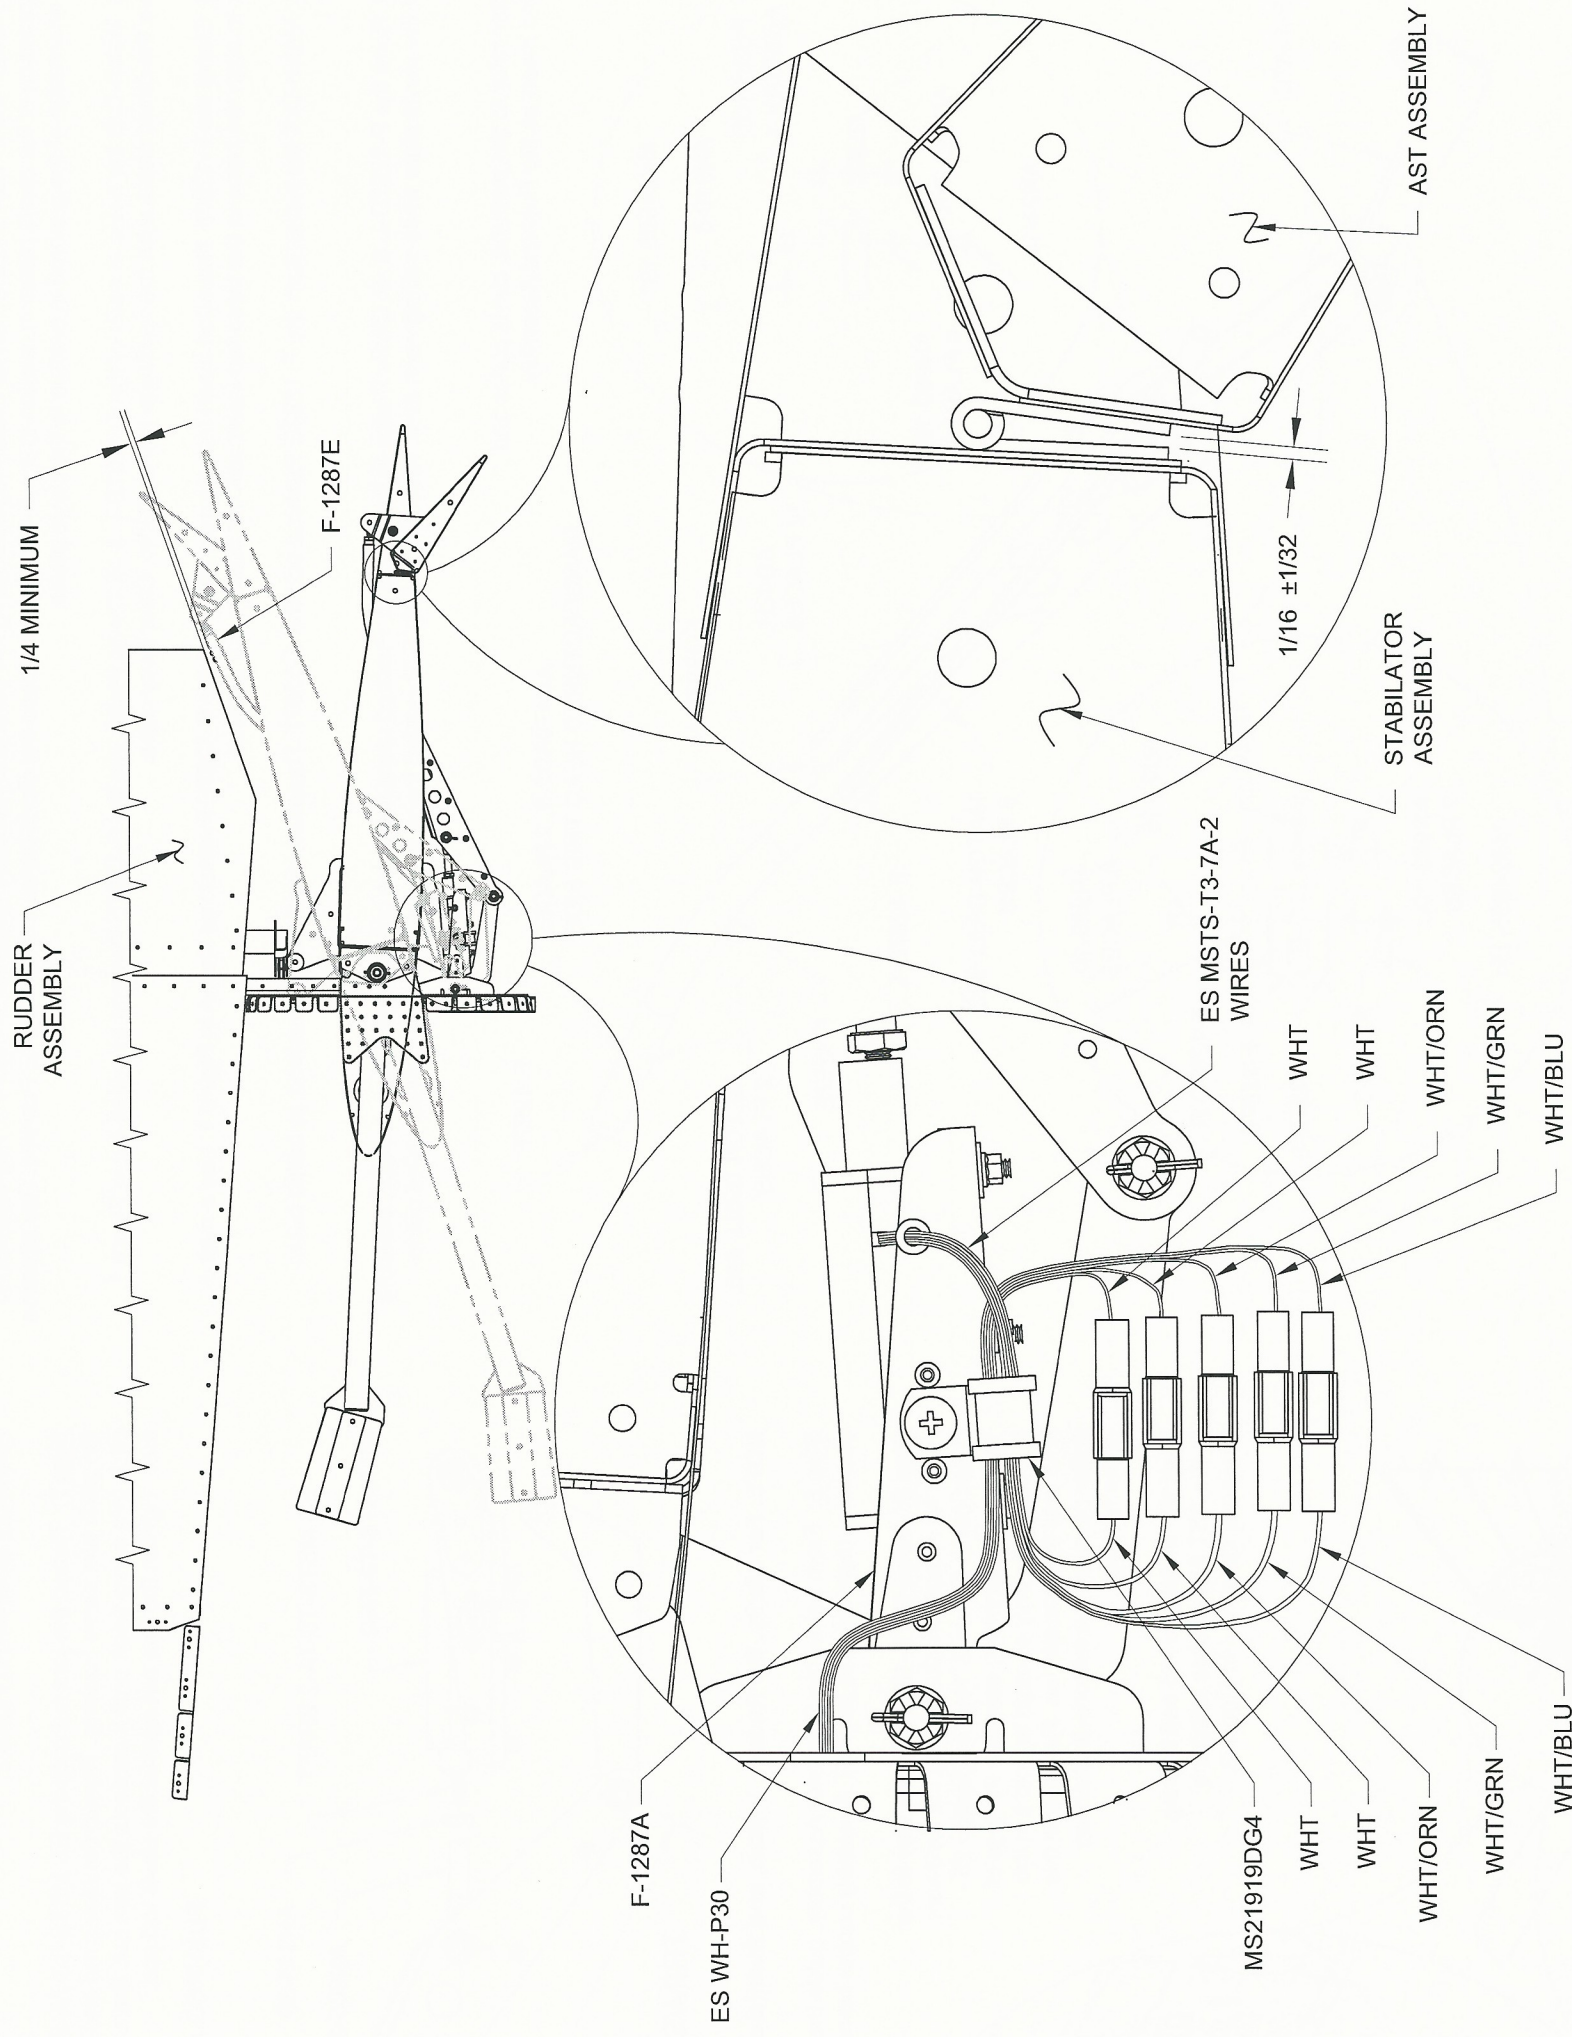

FIGURE 1:
Step 1: Locate the two white wires from the ES MSTS-T3-7A-2 Pitch Trim Servo. Temporarily connect one of the white wires to the positive (+) terminal of a 12V DC battery pack from a cordless drill. Temporarily connect the remaining white wire to the negative (-) terminal of the same battery pack. Polarity determines the direction of travel. Operate the pitch trim servo until the clevis rod end on the pitch trim servo is fully extended (it will stop automatically), then disconnect the battery. Check the Stabilator Assembly movement to make sure it swings freely. Stabilator travel in both directions should be limited only by the HS-1210 hinge stops contacting the F-1211C tailcone hinge bracket, refer to Page 11-3, Figure 2, Detail A-A. If necessary, adjust the rod end bearing to achieve clearance between the AST and Stabilator Assembly hinge halves per dimensions given in the magnified view of Figure 1.
Step 2: Temporarily re-connect the white wires to the battery pack. Operate the pitch trim servo until the clevis rod end is fully retracted, then disconnect the battery. Check the Stabilator Assembly movement to make sure it swings freely, limited only by the HS-1210 hinge stops contacting the F-1211C tailcone hinge bracket. Make sure there is at least 1/4 inch between the F-1287E Pushrod and the Rudder Assembly in any position as shown in Figure 1.
Step 3: Remove the cushioned clamp from the F-1287A Servo Tray. Route the WH-P30 Trim Wires through the cushioned clamp in the opposite direction as the wire from the ES MSTS-T3-7A-2 Pitch Trim Servo wire. Install the cushioned clamp to the servo tray. Plug the wires together as shown in Figure 1.